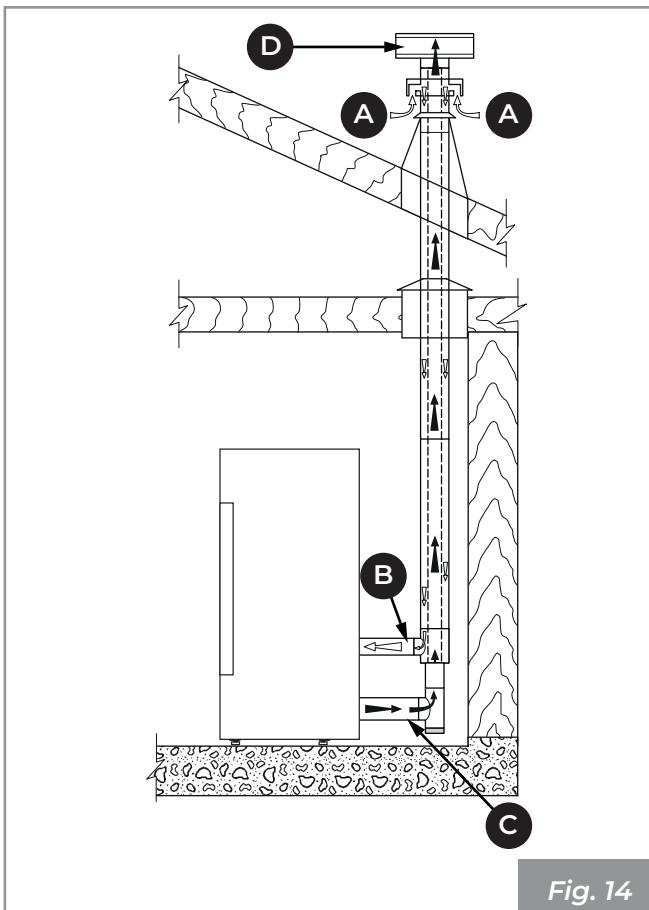
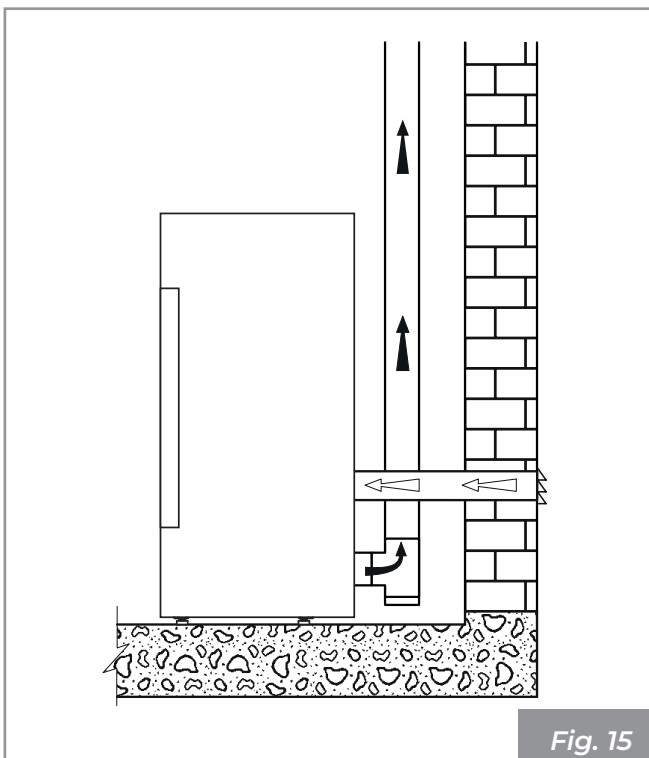

Fig. 14
Fig. 15
- it can come directly from outside with direct connection to the combustion chamber (**Fig. 14 - Fig. 15**).
- to channel the combustion air using a coaxial exhaust pipe to expel the flue gases and extract the air (**Fig. 14 - A, B** = Air inlet, **C, D** = Flue gas outlet); in this case it is not necessary to create a classic air intake in the room.
- to connect the combustion air inlet of the appliance to the air intake using a special pipe (**Fig. 15**).